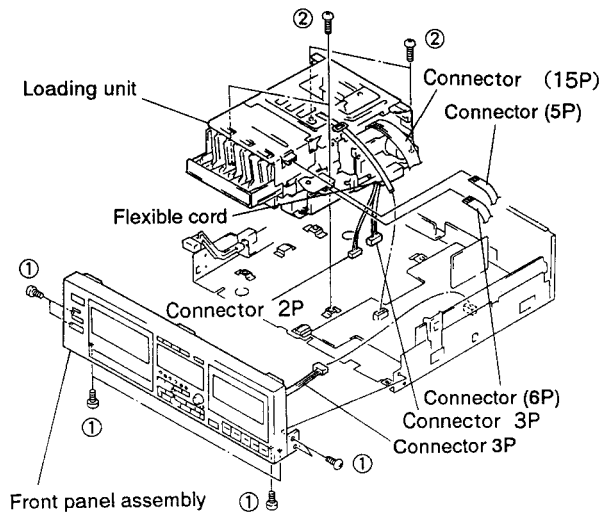

Fig. 2-1
2.1 REMOVAL OF LOADING UNIT (Refer to Fig 2-1.)